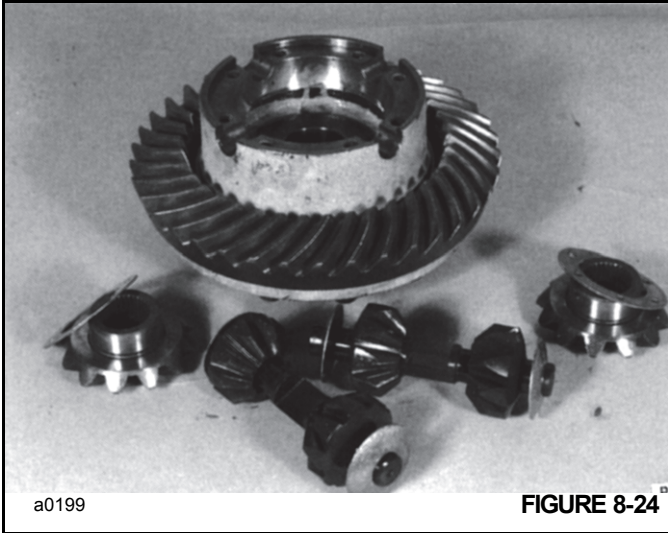

FIGURE 8-24
- c. Remove the differential gears and spherical washers Figure 8-24. Pull off both differential bearing cones.